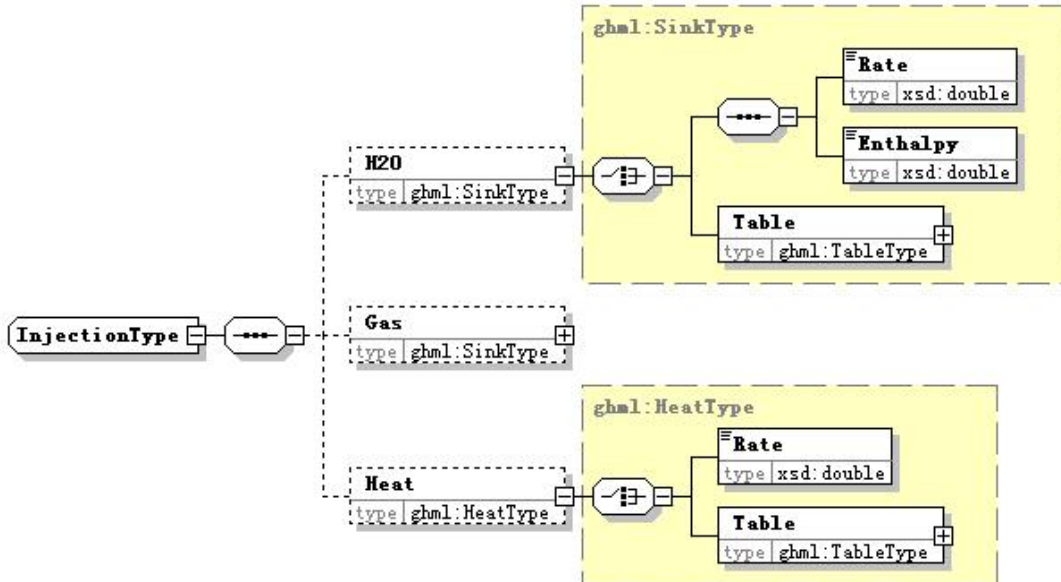

Figure 13. InjectionType
- **Injection [ghml:InjectionType]** - Defines production injection into a cell. Injection parameters will vary depending on the EOS being used (Figure 13). In general, the user will specify a rate and an enthalpy for each component to be injected. The rates can be defined as constant (**Rate [double]** and **Enthalpy [double]**) or using a table to give time/rate pairs.